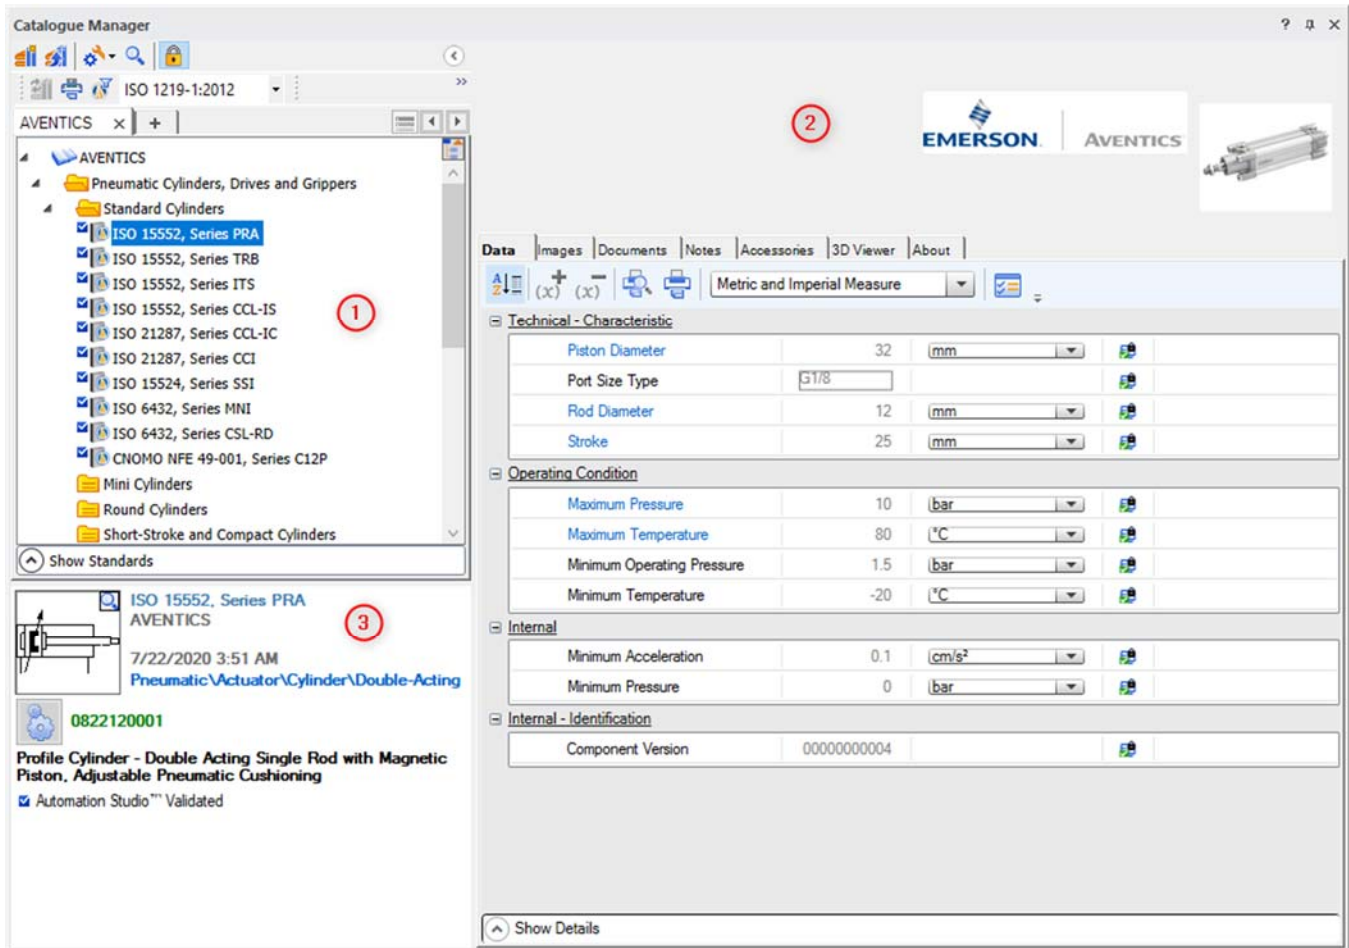
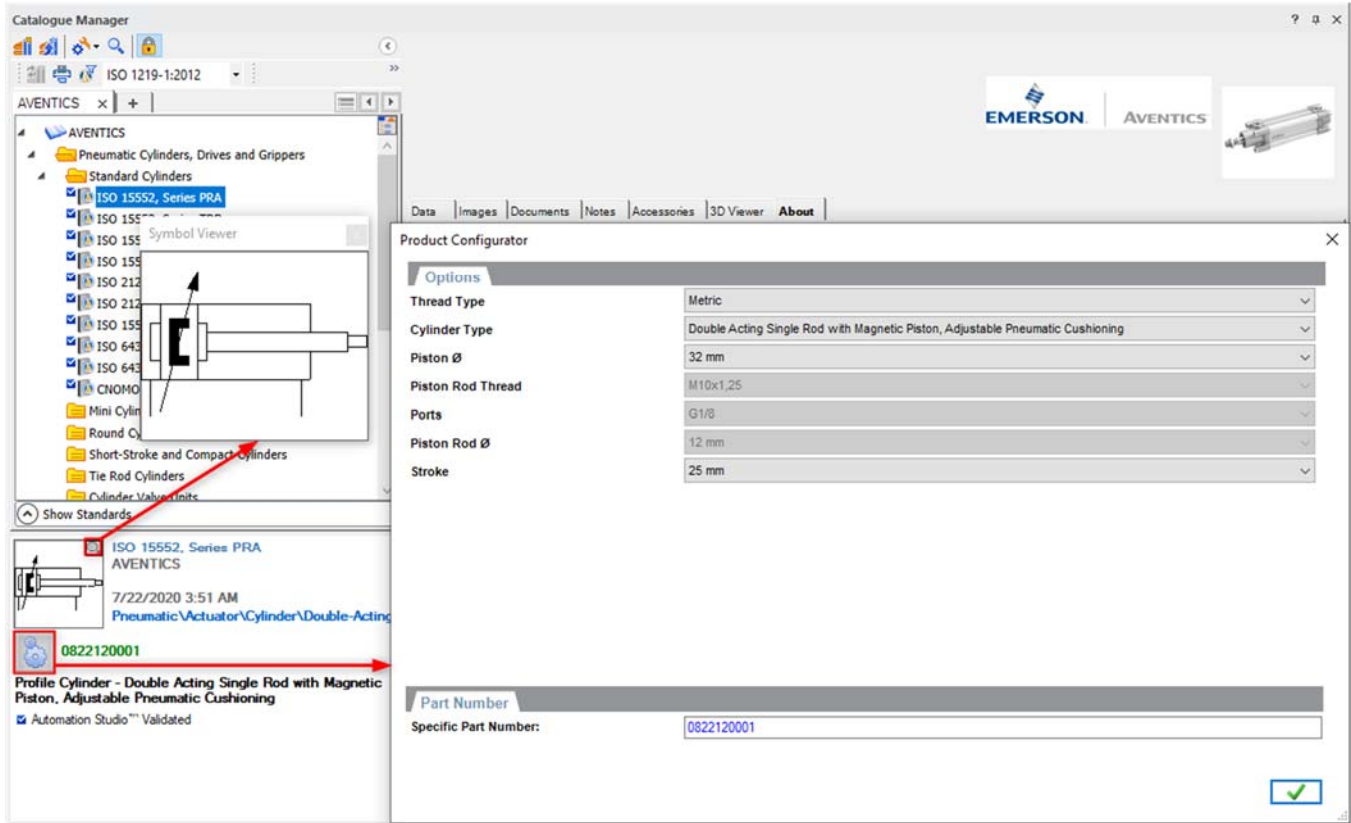

Figure 1: Catalogue Manager Window Displaying Technical Data and Symbol of the ISO 15552, Series PRA.
Figure 2: A Configured Part Number of the ISO 1552, Series PRA Using the Catalogue Manager’s Product Configurator Window.
The **Catalogue Manager** of **Automation Studio™** consists of three sections as shown in Figure 1. The first section (1) contains a catalogue tree similar to the manufacturer's website where a user can easily find a component as per the requirements. In the catalogue tree, components have been categorised as per their types and function. The second section (2) consists of different tabs where the user can get information like technical data, images or 3D CAD files of the selected component. The "Documents" tab of this section contains test files and the manufacturer's technical specifications of the product. Section (3) shows a "Set Specific Part Number" function button which opens the "Product Configurator" window as shown in Figure 2.
Using the “Product Configurator”, the user can easily select specific product characteristics and configure the manufacturer specific part number of the component. The options to choose the desired mounting style, cylinder bore, stroke and more are available. The product information, technical data and symbol get updated with the selected options. The “Symbol Viewer” button (refer to Figure 2) allows the user to magnify the view of the configured component’s symbol. All these Catalogue Manager features were designed to enable the user to easily choose and configure pre-modelled components.